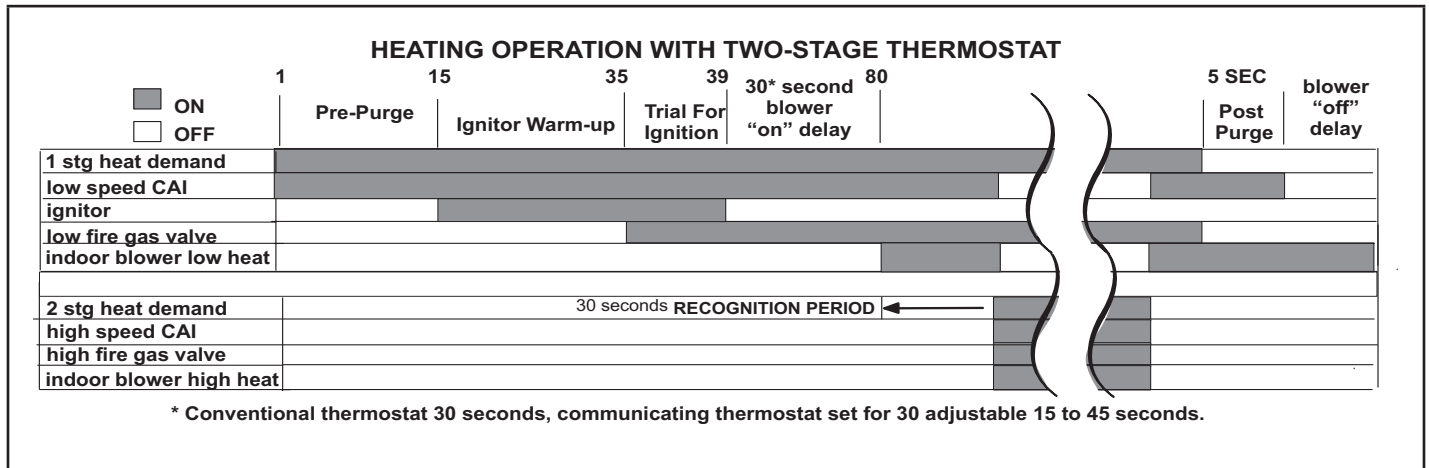

FIGURE 62
**Applications Using a Two-Stage Thermostat See FIGURE 62 for ignition control sequence**